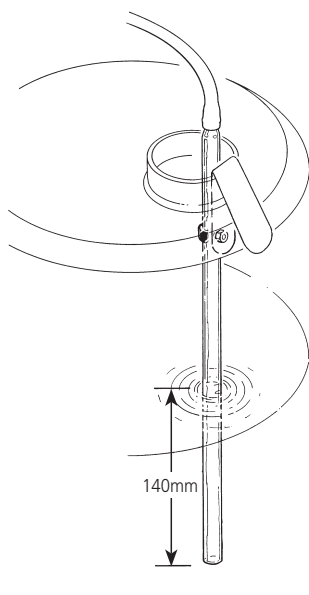

Fig 4a
- Use the metal clip to fit the glass pressure bell inside the distillate collection reservoir. Refer to fig. 4a.